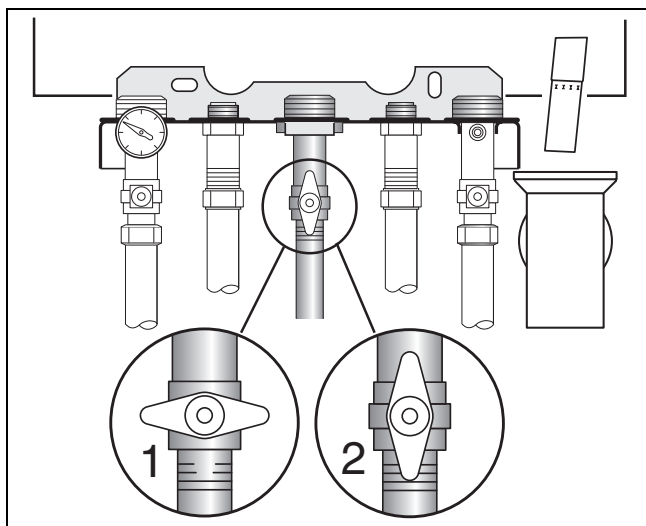

fig. 42 Gas valve
- Close the gas shutoff valve (fig. 42, item 1).
- Shut the gas shutoff valve underneath the boiler (see fig. 42, item 1).
- Open the gas shutoff valve (see fig. 42, item 2).
- Shut the gas shutoff valve (see fig. 42, item 1).